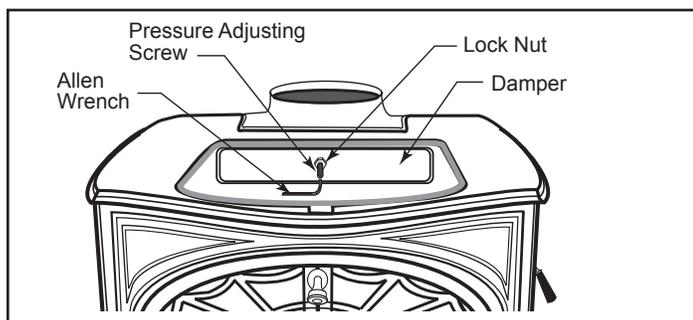

Figure 43 - Adjust the damper with the Allen wrench.
1. Remove the griddle. Loosen the lock nut at the center of the damper. (Figure 43)